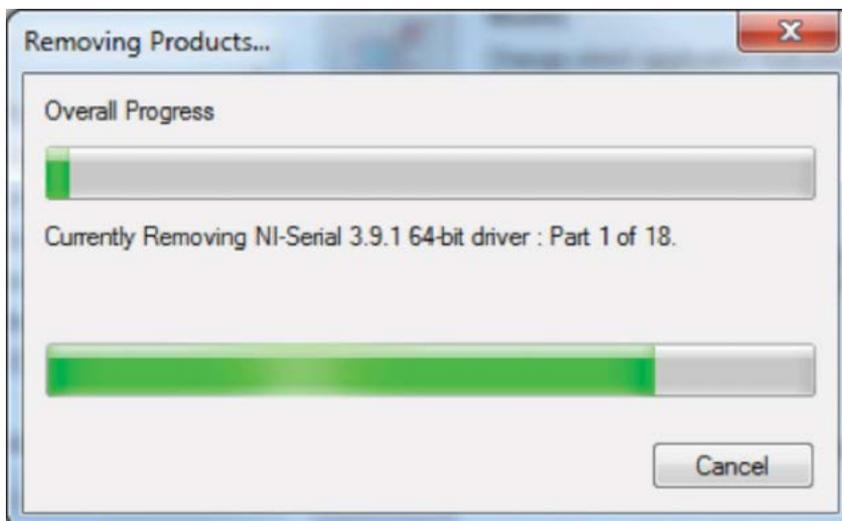

Figure 30: Status Window
- Again, the computer will begin to uninstall the software. The status bar noted in **Figure 30** might appear. Do NOT click on cancel.